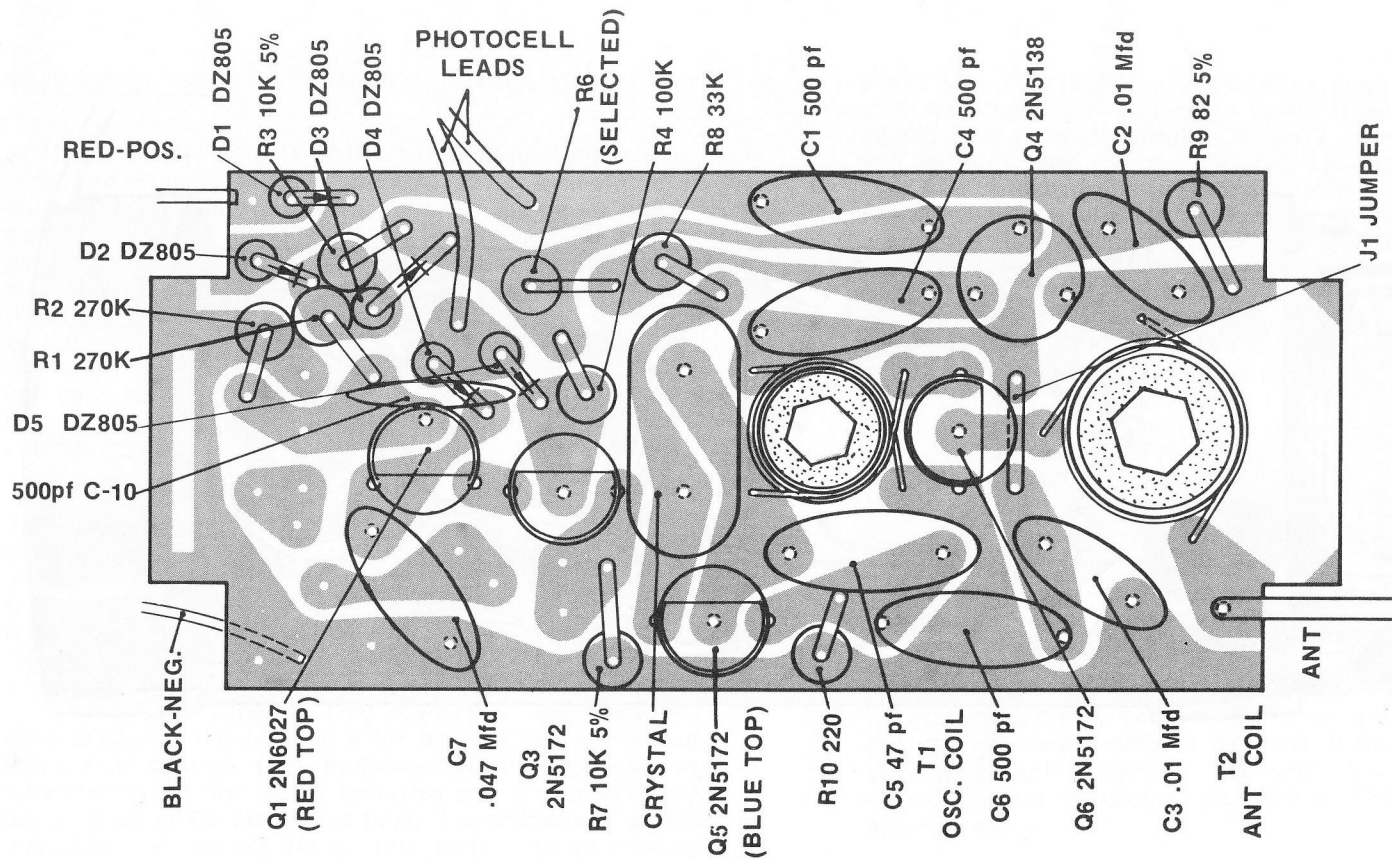
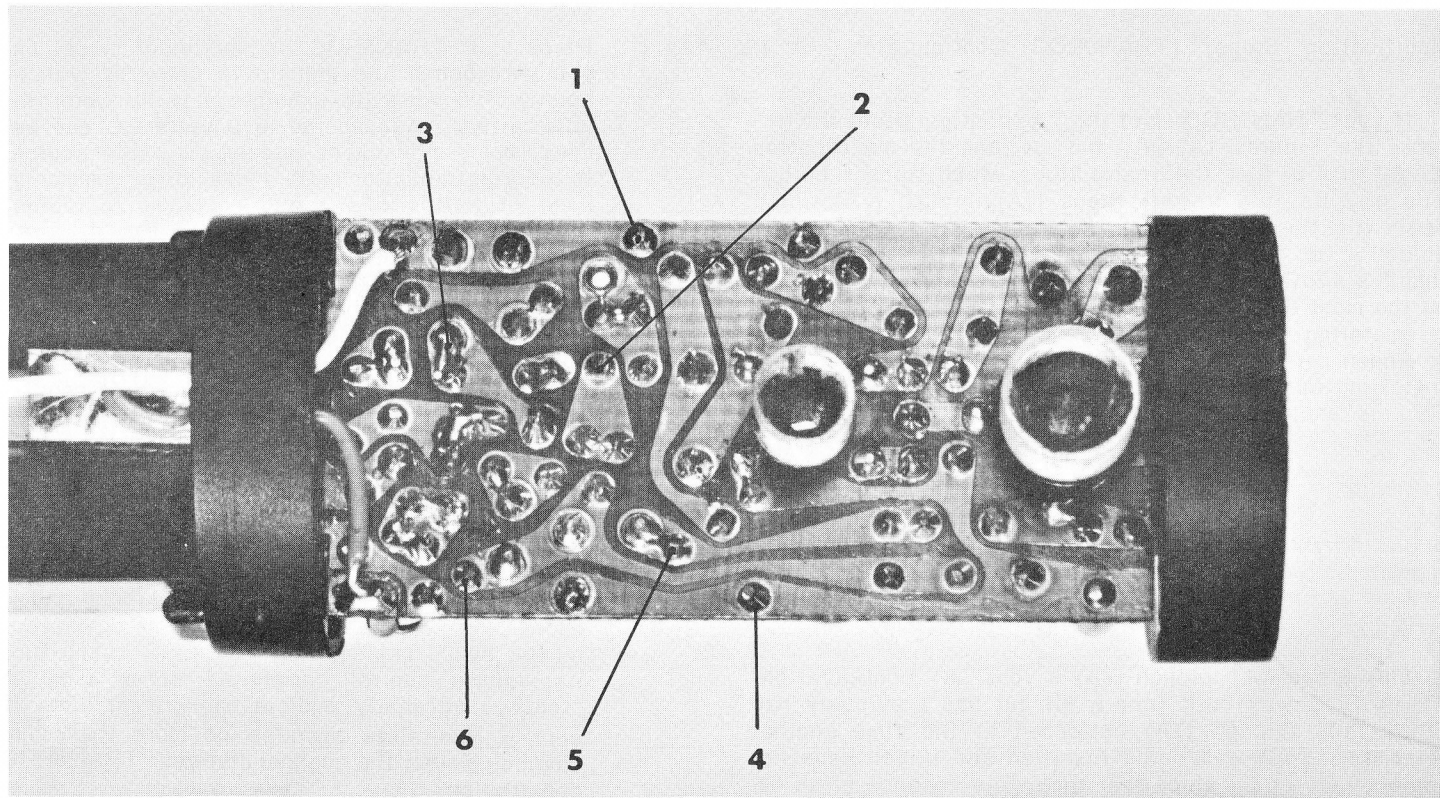

FIG. 1A "A" CONFIG. TRANSROC, SPIN-RATE MODE
FIG. 3A BOTTOM VIEW "A" CONFIG. TRANSROC, SPIN-RATE MODE
Note that each component identifier line in Figures 1A and 1B ends at a dot which is located on the body of the respective component. Place a check mark in the () provided as you complete each step. In each case, when the instruction calls for the installation of a component, several additional instructions are implied:
- (c) The component must be oriented as shown in Figure 1A or 1B (depending upon which configuration TRANSROC you have). In cases where the illustration is inadequate to identify polarity, etc., the instruction will include the additional information. Be careful to insert transistors with the flat surface oriented as shown in the appropriate illustration.
If your TRANSROC is of the "A" configuration, it will look like Figures 1A, 2A, and 3A, and the modification steps will be per the instructions which appear below. You may be able to skip Steps (1A) through (7A) which deal with the selection of the proper value of R6. The objective of these resistor selection steps is to insure that the TRANSROC oscillator will "idle" when powered by the most severely worn battery that could be used in a telemetering mode. Once this resistor selection procedure has been performed, it does not need to be repeated when installing other telemetering kits or returning the TRANSROC to another mode.
- 2A. () Temporarily solder a jumper wire between points "1" and "3" on the bottom of your TRANSROC PC board. (See Figure 3A.) This tack soldering will be easier if you first tin the tips of the jumper wire.
- 5A. () If you detected no increase in the level of hiss coming from your walkie-talkie when you turned on the TRANSROC in Step (4A), you will need to install a selected value of R6. Bend the leads of the 9.1 meg. resistor (gray, brown, green, gold) at each end of the resistor body to form approximately a "U" shape. (Don't use sharp bends in the leads, since this is temporary.) Temporarily solder this resistor between points "5" and "6" on your PC board. (See Figure 3A.) Again, turn on the TRANSROC by connecting the temporary 9-volt power source. If an increase in hiss level is detected on your walkie-talkie when the TRANSROC is turned on, whereas none was detected without an R6, install the 9.1 meg. resistor permanently as R6. (See Figures 1A and 2A.) Be sure to solder both brass eyelets securely to the copper lands.
- 10A. () Install C7 (a 0.047 mfd capacitor used in the spin-rate TM mode). (See Figure 1A and 2A.) This capacitor is not polarized.
- 14A. () Inspect the bottom of the PC board for poor solder joints, solder bridges, etc. It should look like Figure 3A.
If your TRANSROC is of the "A" configuration, it will look like Figures 1A, 2A, and 3A, and the modification steps will be per the instructions which appear below:
- 1A. () Desolder and disconnect the photocell leads from the PC board. (See Figure 1A.)
- 3A. () Desolder and remove C7 (a 0.047 mfd capacitor). (See Figure 1A.)